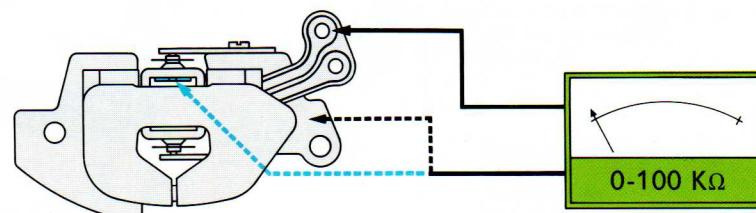

Fig. 15
9.12. Check the insulation of coil in relation to the finger and in relation to the metal carcass (Fig. 15). The resistance must be > (bigger) than 100 K $\Omega$ .